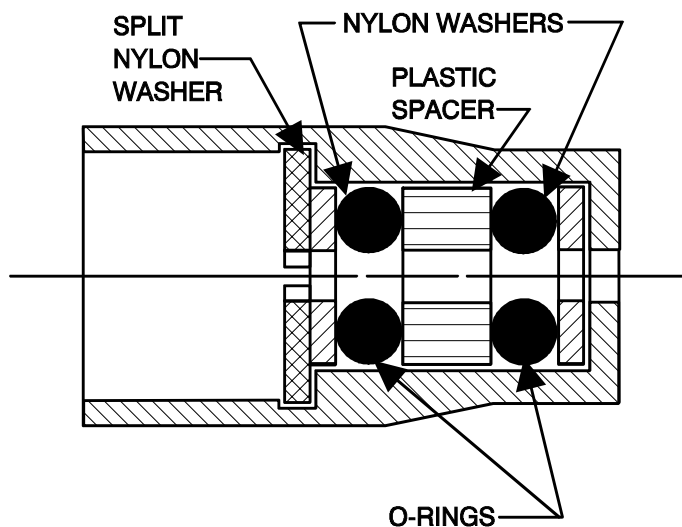
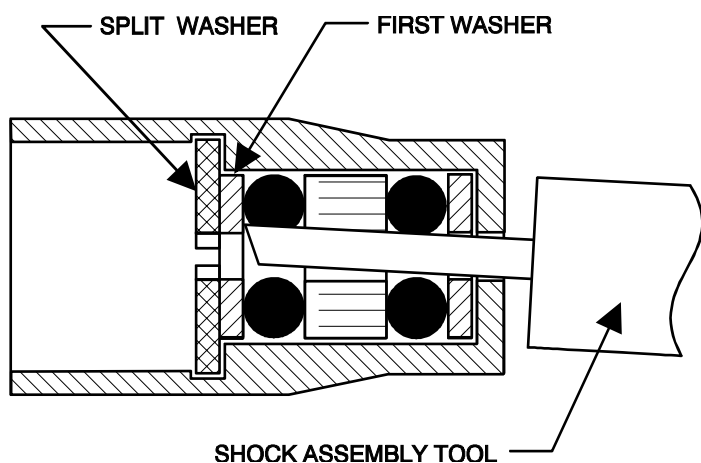

Fig. 122
Fig. 123
To correctly assemble each shock, install the parts on the shock assembly tool in this order: (1) first the split locking washer, (2) then one small nylon washer, (3) red O-ring, (4) large nylon spacer, (5) second red O-ring, (6) and second small nylon washer. You can compare this sequence with layout in fig. 118. Fig. 122 shows a cutaway drawing of the shock body with the internal seal parts installed. **Note:** if you need to replace just a red O-ring, you can purchase them separately under part numbers #5407 (8 red O-rings).
❑ **Figs. 122 & 123 HOW TO DISMANTLE THE SHOCK SEAL PARTS** Fig. 122 shows a cutaway of the bottom portion of the shock showing how all of the parts fit into the shock seal cavity. Fig. 123 is the same cutaway drawing depicting the shock assembly tool removing the shock seal parts.